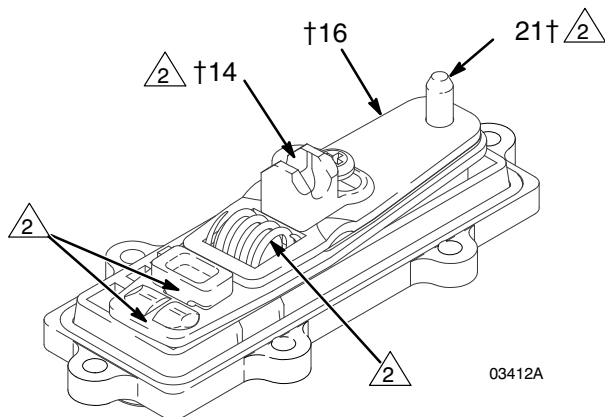
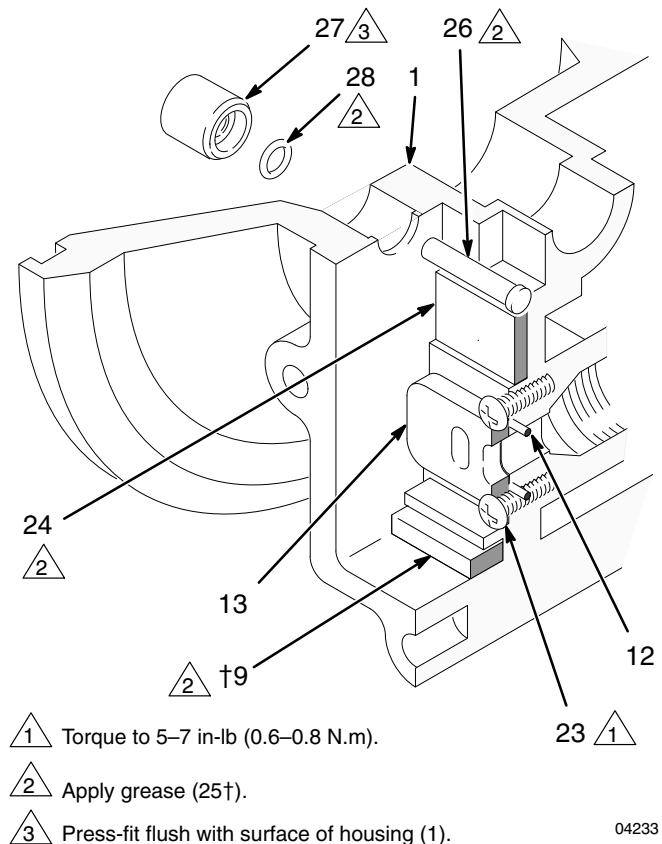

Fig. 8
Fig. 9
2. Unscrew the six mounting screws (10) and remove the air valve (A) from the pump. See Fig. 8.
3. Refer to Fig. 9. Use an o-ring pick to remove the bearings (9 and 24).
4. Remove the two screws (23) holding the valve plate (13) to the pump. Use an o-ring pick to remove the valve plate and seal (12). Clean and inspect the parts. Replace any worn ones.
5. If the pilot pins (26) are accessible from the inside of the pump housing (1), pull them out. If not accessible, disassemble the fluid section as explained on page 21.
7. Grease the o-rings (28) and install them in the bearings (27). Press the bearings and o-rings in place so the bearings are flush with the surface of the housing (1). See Fig. 9.
8. Grease the pilot pins (26) and install them from the inside of the housing (1).
9. Install the seal (12) in the pump housing (1). Install the valve plate (13) and secure with the two screws (23). (The heads of the screws overlap the top and bottom edges of the plate to hold it in place.) Torque the screws to 5–7 in-lb (0.6–0.8 N.m).
10. Apply grease (25†) to the bearings (9† and 24). Install the bearing (9†) in the pump housing (1). Install the other bearing (24).
11. Make certain the o-ring (19†) is in place on the air valve (A). See Fig. 8.
12. Apply grease (25†) where shown in Fig. 8.
16. Install the six screws (10) and torque oppositely and evenly to 20–25 in-lb (2.3–2.8 N.m). See Fig. 8.